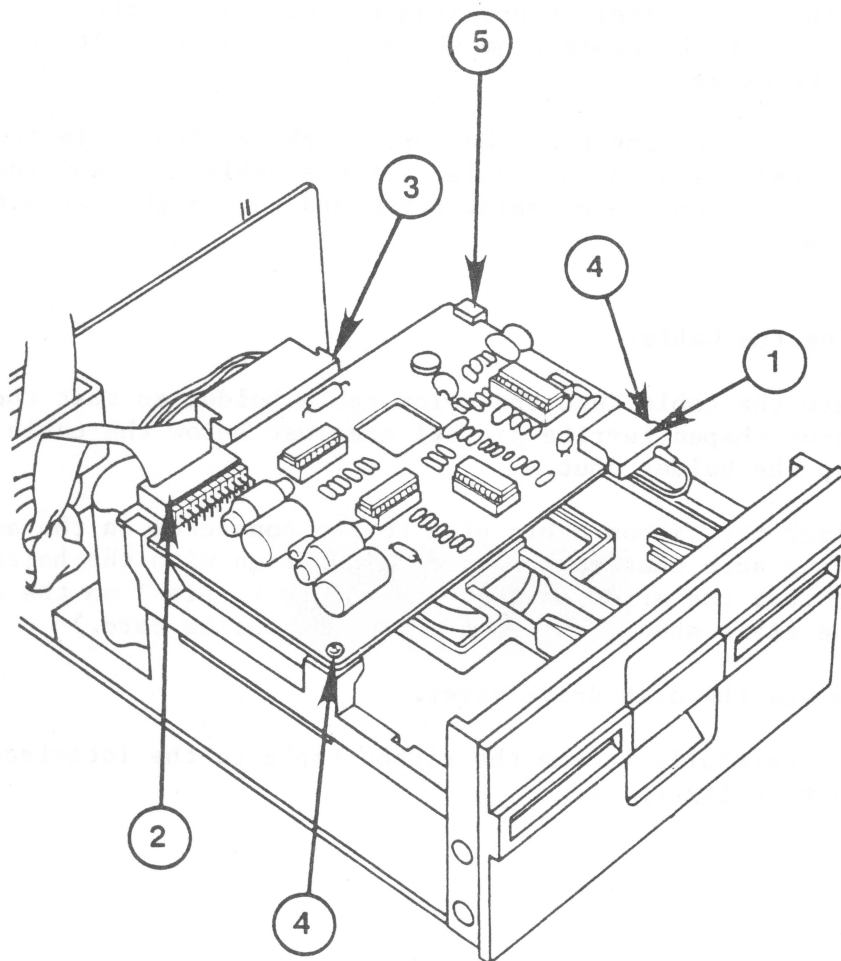

FIGURE 2
3. Gently remove the read/write head plug from the front of the analog card (Figure 2, #1).
8. Slide the card into position in the slots of the rear support posts (Figure 2, #5).